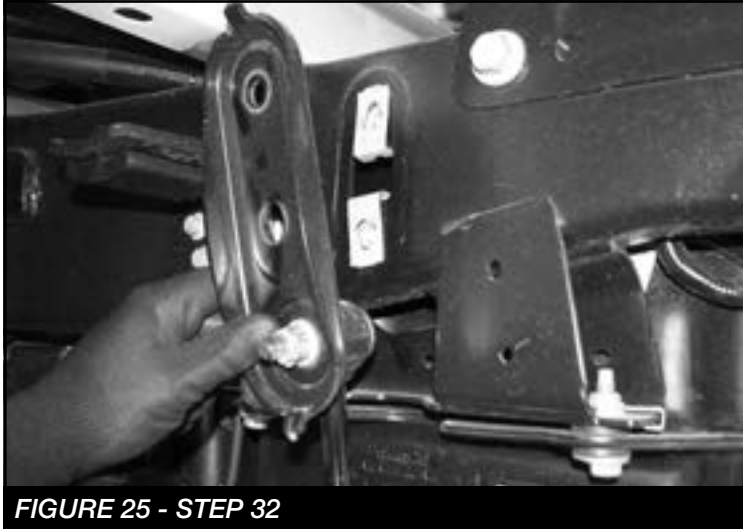

FIGURE 25 - STEP 32
32. Remove the sway bar end link and factory bracket from the frame. Save hardware. Remove end link from the bracket and discard. The bracket will be re-used. **SEE FIGURE 25**